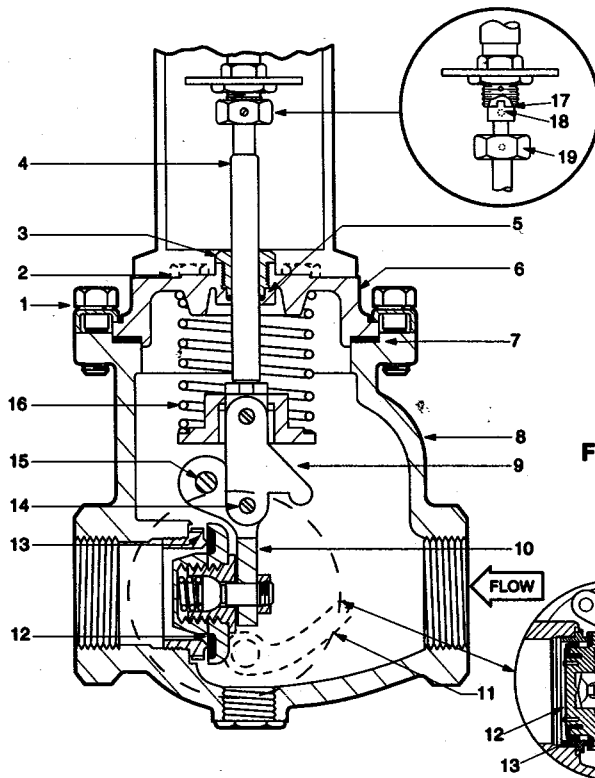

Figure 6. H117 Hydramotor®
3. Remove four hex head cap screws holding actuator to valve bonnet (2, figure 6).
4. Lift actuator off valve bonnet (6).
5. Energize new actuator and set on valve bonnet (6).
6. Replace and tighten four hex cap screws (2).
5. Remove packing bushing (3, figure 6). Stem packing O-ring (5) is now accessible.
2. Remove plug(s) or side access plate, to remove lever shaft (15, figure 6).
3. Energize actuator. Lift valve linkage so pin (14) may be removed. Push lever shaft (15) through valve, or pull lever shaft from valve with 10-32 screw, then remove valve lever (10) and seat disc assembly (12).